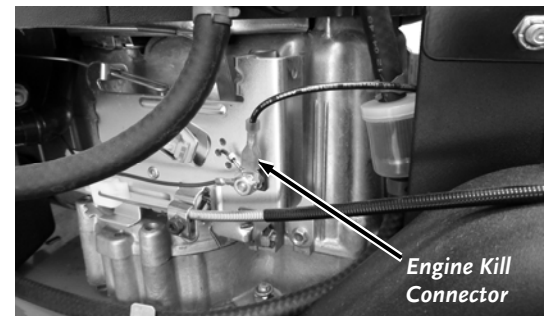

Figure 10
- Remove the Engine Kill Wire from the Throttle Linkage using a 9mm Wrench (**Figure 10**).
10. Install the Engine Kill Wire to the Throttle Linkage using a 9mm Wrench (**Figure 10**).